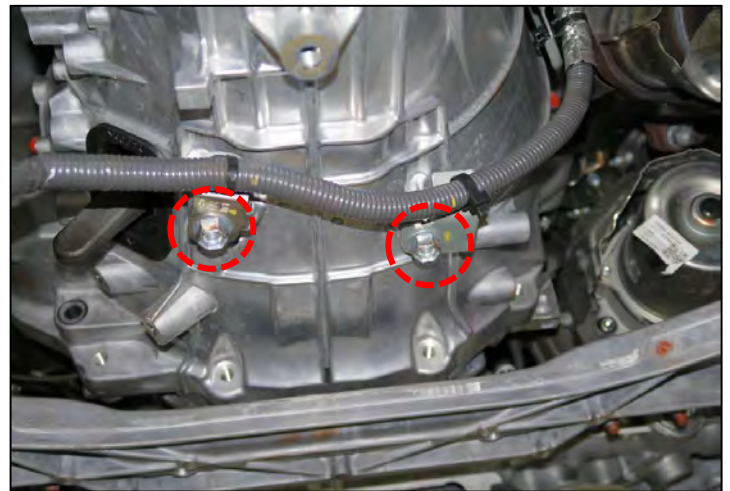

Figure 52
53. Remove the (2) harness retainer bolts from the bottom of the transmission assembly. (Figure 52)